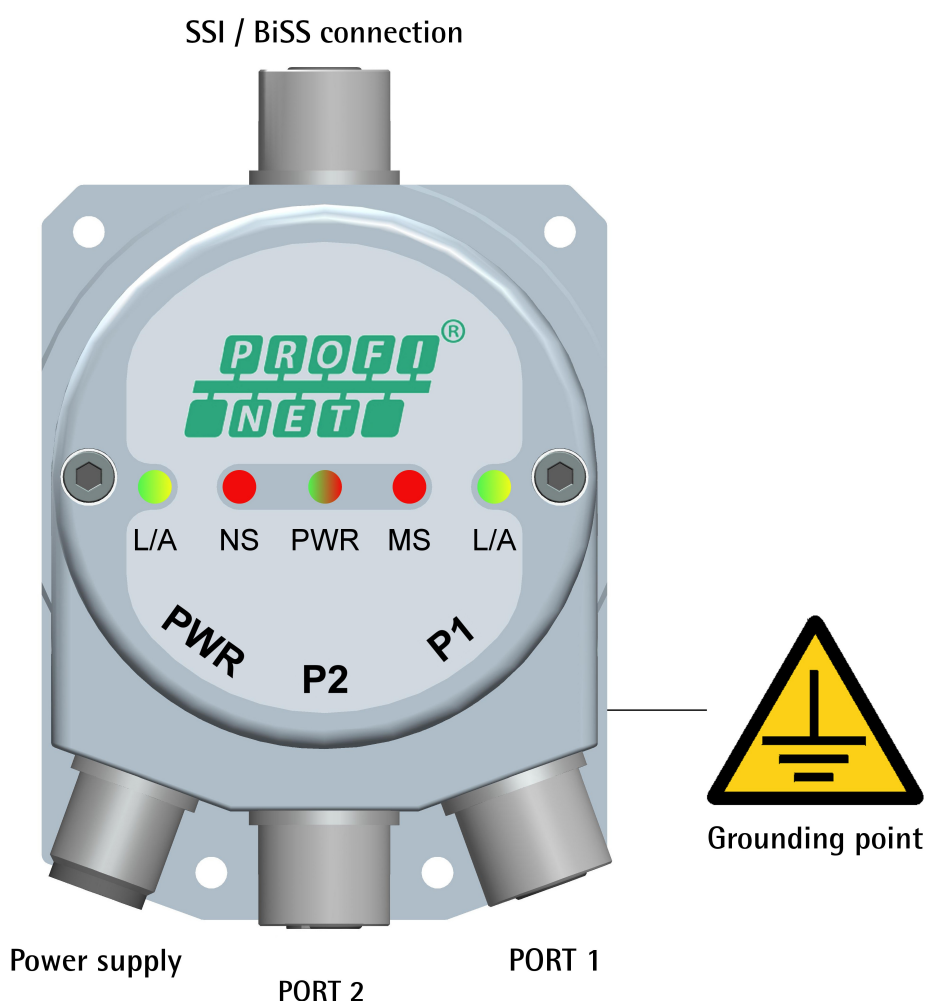

Figure 4 - Connectors and diagnostic LEDs
4.2 PWR Power supply connector (Figure 4)
4.3 P1 Port 1 and P2 Port 2 connectors (Figure 4)
4.4 Ground connection (Figure 4)
To minimize noise connect properly the shield and/or the connector housing and/or the frame to ground. Connect properly the cable shield to ground on user's side. Lika's EC- pre-assembled cables are fitted with shield connection to the connector ring nut in order to allow grounding through the body of the device. Lika's E- connectors have a plastic gland, thus grounding is not possible. If metal connectors are used, connect the cable shield properly as recommended by the manufacturer. Anyway make sure that ground is not affected by noise. It is recommended to provide the ground connection as close as possible to the device. We suggest using the ground point provided in the cap (see Figure 4, use 1 TCEI M3 x 6 cylindrical head screw with 2 tooth lock washers).
4.8 Diagnostic LEDs (Figure 4)
Five LEDs located in the cap of the converter (see Figure 4) are meant to show visually the operating or fault status of the converter and the Profinet interface. The meaning of each LED is explained in the following tables.